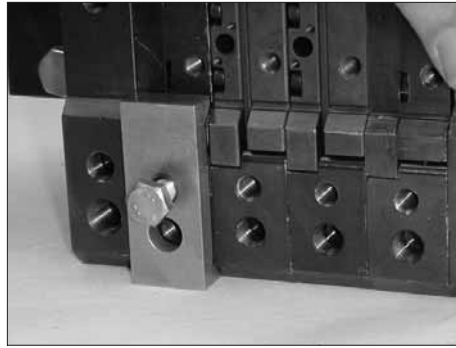

Figure 7-75 Installing a pump clamp
5. See Figure 7-75. Once all the pumps are installed and fully seated, install the pump clamps but do not tighten the bolts.